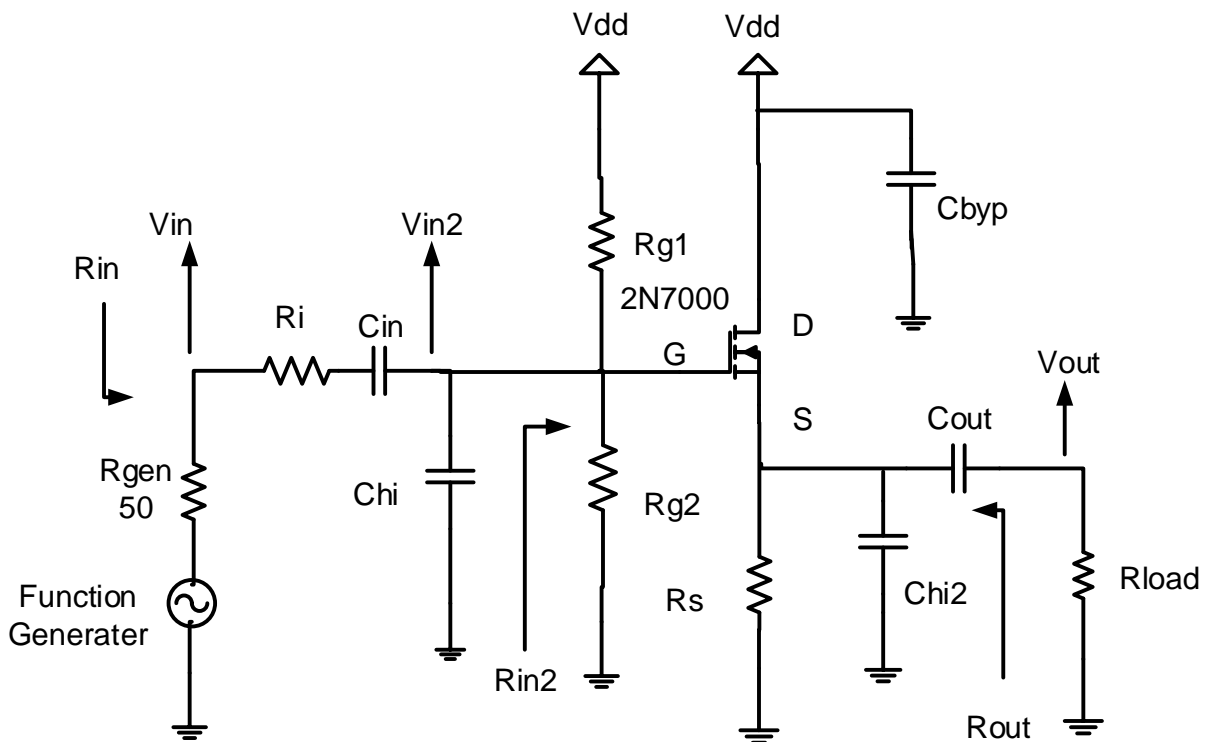

Figure 2. Common-drain amplifier circuit.
6.4. Construct the CD amplifier shown in Figure 2. Remember that R_{gen} is internal to the function generator $F_{gen} = 2\text{kHz}$. Record the values of the bias network resistors and the capacitors you used in the circuit. $R_L = 220\Omega$